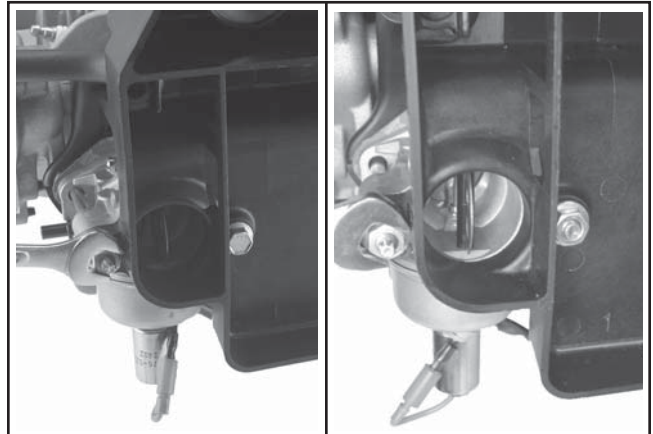

Figure 8-9. Removing Air Cleaner Base Fasteners.
3. Remove the two hex flange nuts, or single nut and long mounting screw securing the air cleaner base. See Figure 8-9.